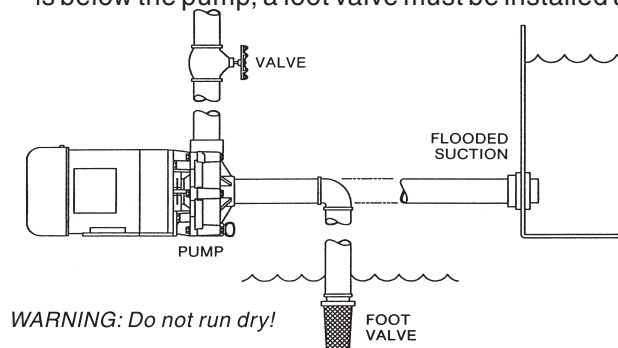

FIGURE 2
- the pump primed prior to start-up. (Figure 2)